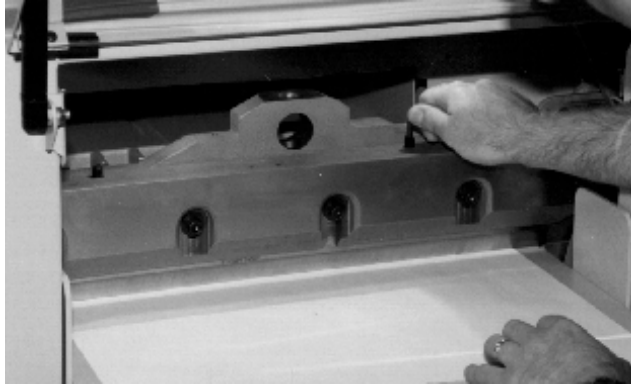

Figure 24
13. Turn the knife adjusters down evenly, a little at a time, until the knife cuts through the bottom sheet of paper the entire length of the cutting stick (Figure 24). Turning the screws down evenly prevents uneven wear on the knife and cutting stick.